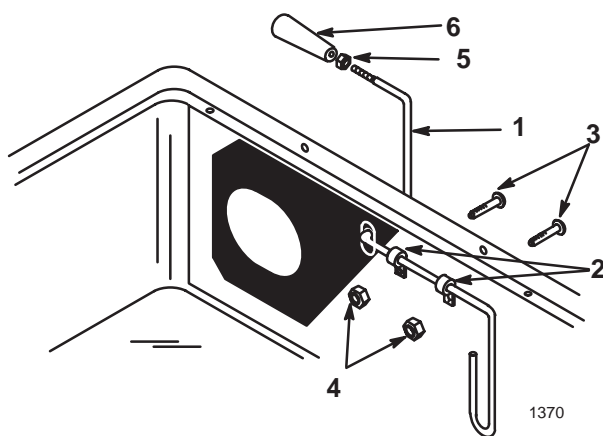

Figure 11
1. Slide the threaded end of the indicator rod through 2 clips, the rubber seal, and the slot in the cover (Fig. 11).
- Secure the clips to the cover with 2 pan-head bolts (1/4 x 5/8 in.) and locknuts (1/4 in.) (Fig. 11).
- Thread the jam nut and handle completely onto the threaded end of the indicator rod (Fig. 11).
- Rotate the handle so that the decal can be read from the operator's position, then tighten the jam nut (Fig. 11).